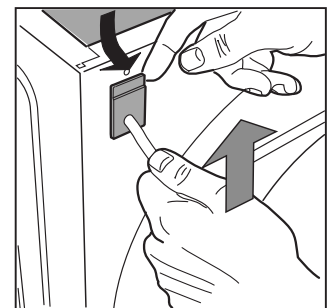

Fig. 16
5. Remove the upper part of the cable slightly from the back panel of the appliance, pull the power supply cable upwards and take it out [fig. 16].